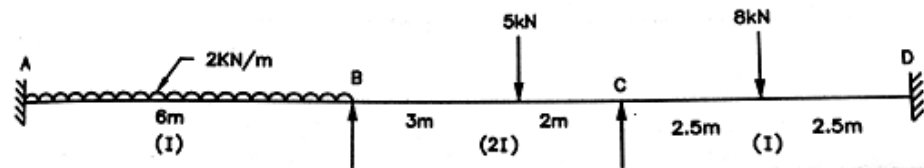

Fig.6
- (B) Analyse the continuous beam using Moment Distribution Method ABCD as shown in figure 6 below. (7)